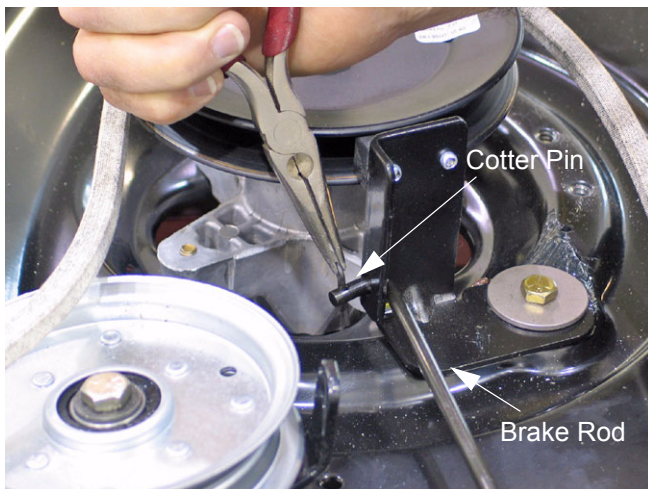

Figure 10
- 3.4. Remove the cotter pin holding the brake rod to the idler bracket and remove the brake rod connected to the idler bracket. See Figure 10.